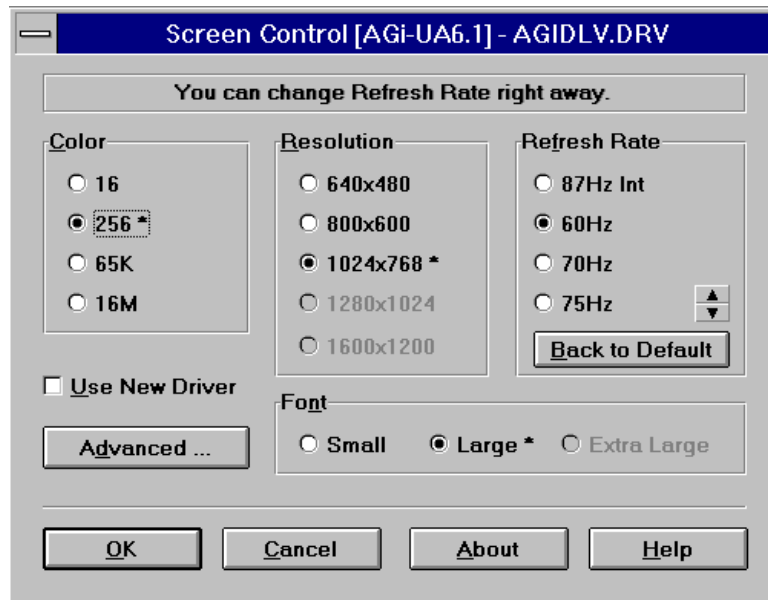

Figure 5.2 Screen Control Menu
1. Select the color depth first (Figure 5-2). If the current driver does not support the selected color depth, restart Windows.